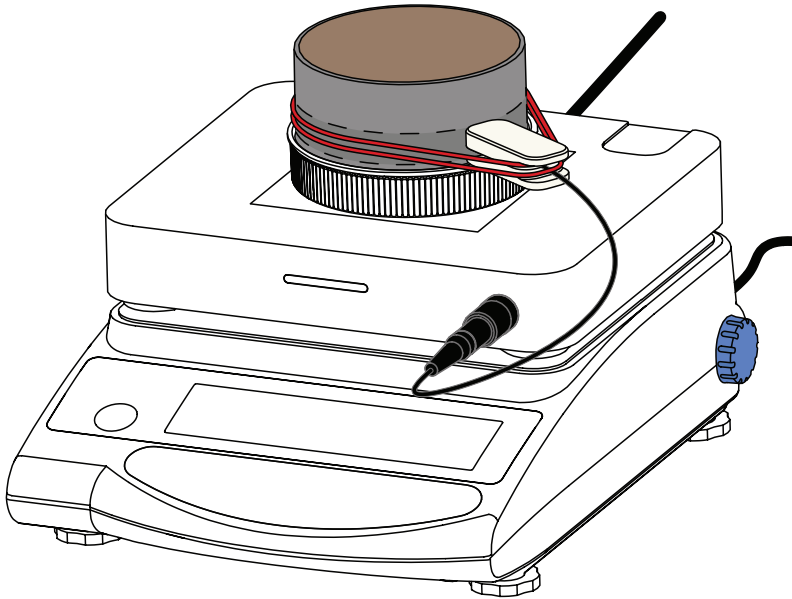
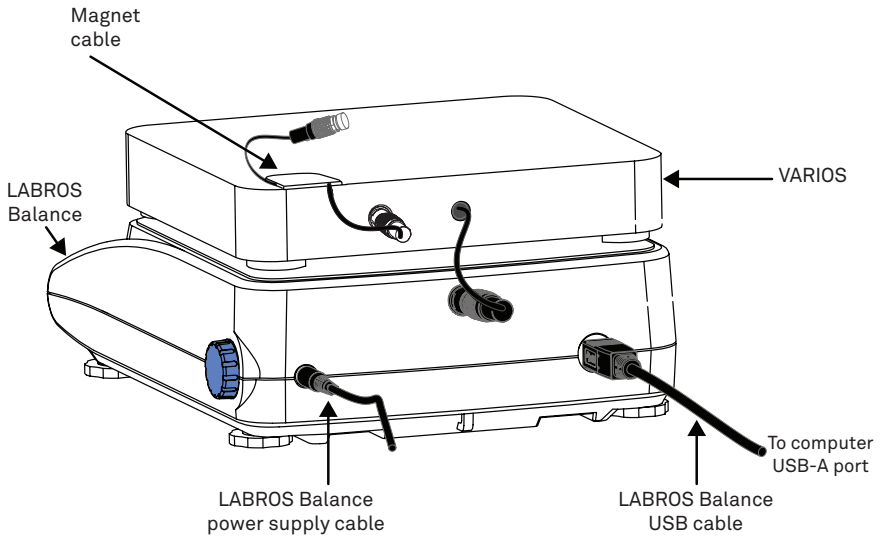

Figure 18 Magnet cable placed on VARIOS
Figure 19 Magnet cable connected VARIOS
7. Place the HYPROP Magnet cable on the marked spot on the VARIOS and connect it to the VARIOS as shown in Figure 18 and Figure 19